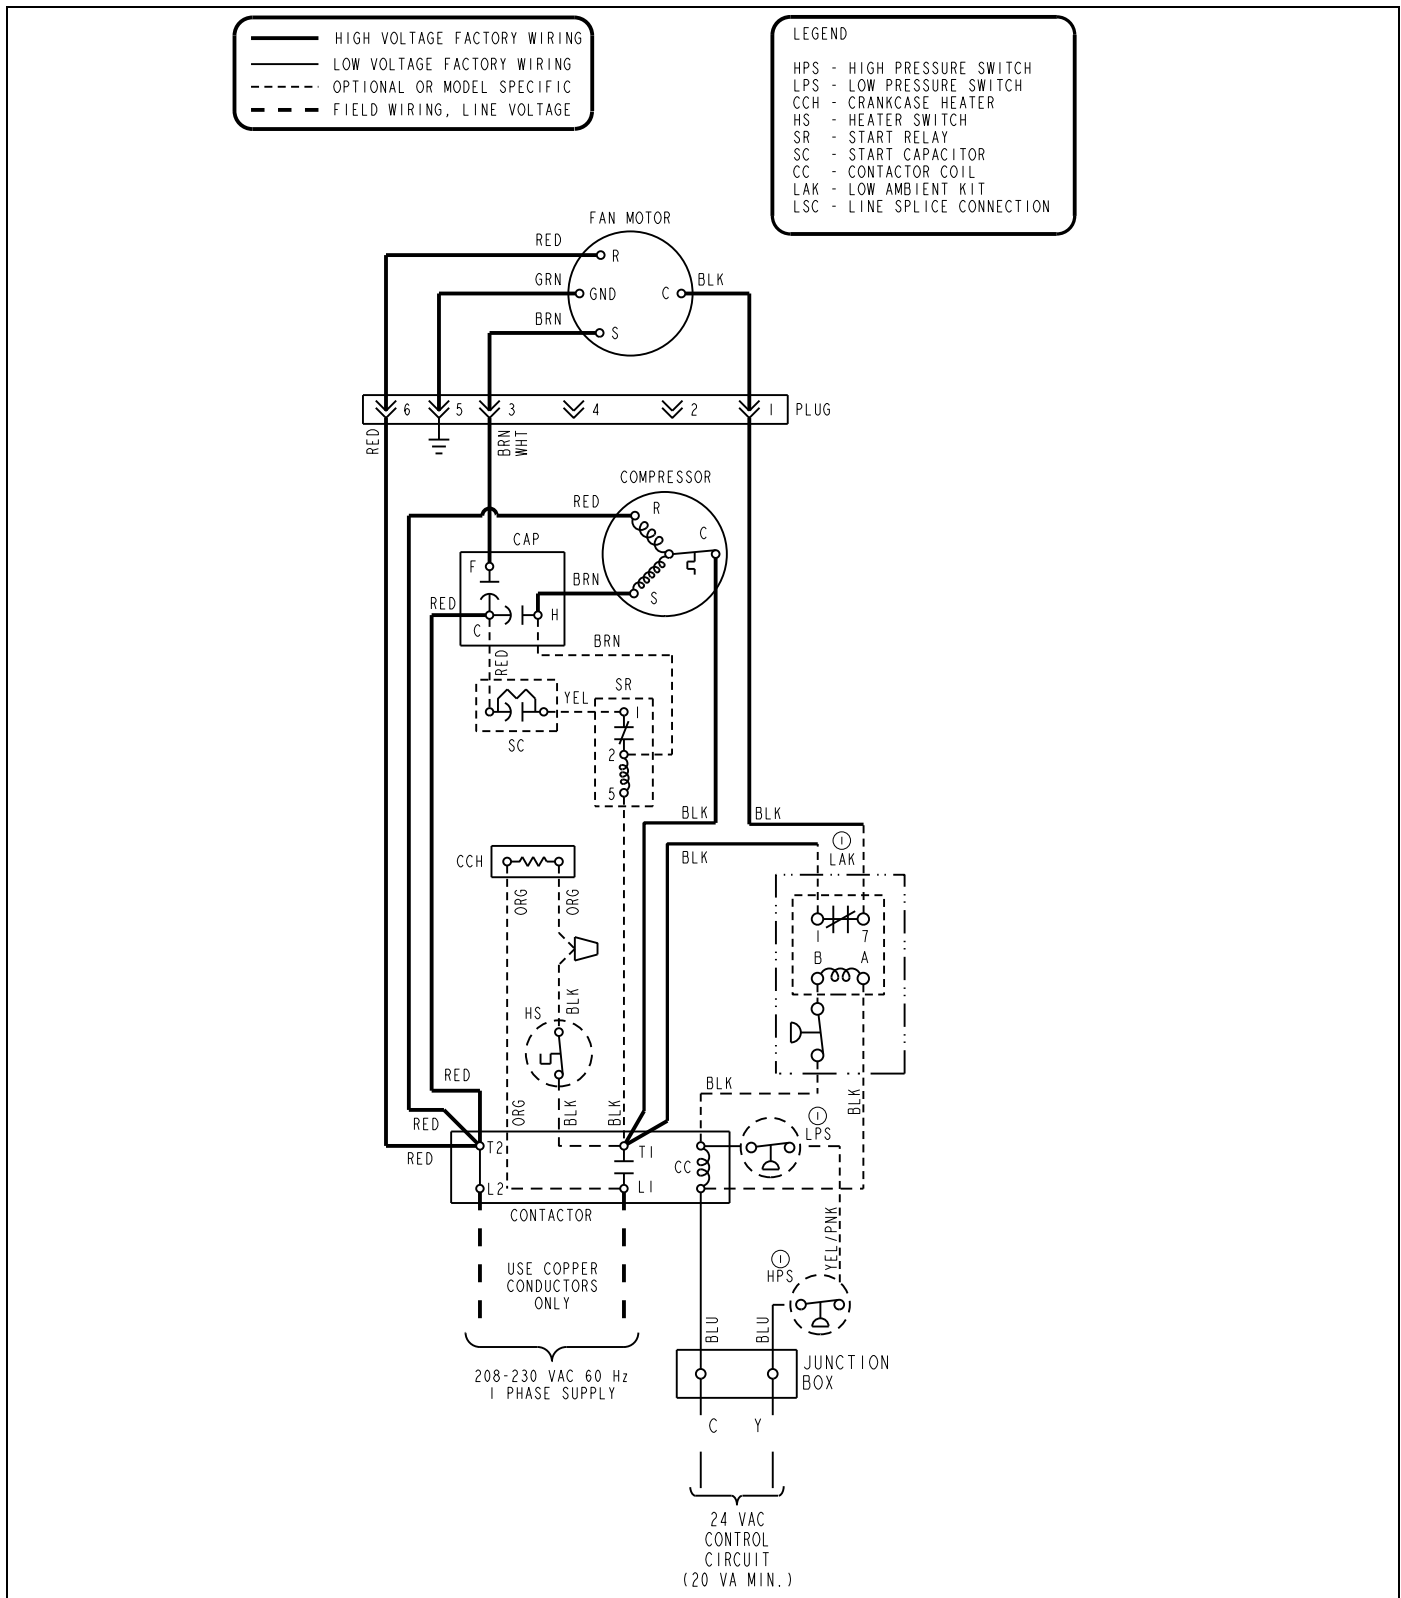

FIGURE 2: Wiring Connections for Air Conditioning Units
- a. For 1 and 3 phase AC, use Figure 2.